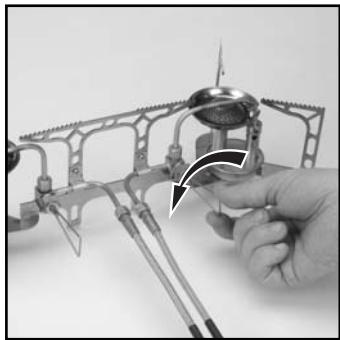

FIG. 27
- Turn flame adjuster to "**High/Light**" (Fig. 27).